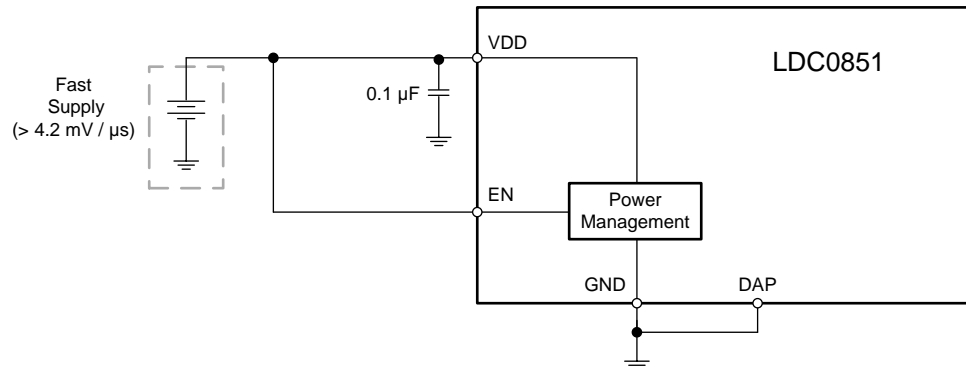

图 32. Supply Connections for Fast Ramp Rate
A 0.1 μF capacitor should be used to bypass VDD. If multiple bypass capacitors are used in the system, then the smallest value capacitor should be placed as close as possible to the VDD pin. A ground plane is recommended to connect both the ground and the Die Attach Pad (DAP). If the supply ramp rate must be faster than 4.2 mV/ μs the enable pin (EN) may be tied directly to VDD as shown in 图 32.